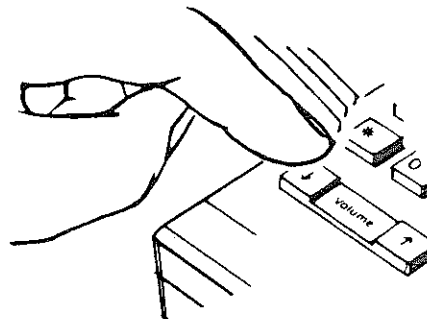

Fig. 8
4. Volume Control Switch. This is a rocker-action switch, located on the face of the unit below the dial keypad. To lower the speaker volume, touch the left side of the switch (↓) repeatedly until the desired level is reached (Fig. 8). Touch the right side of the rocker switch (↑) to increase the volume. The COMPANION 4S must be on to adjust the volume.